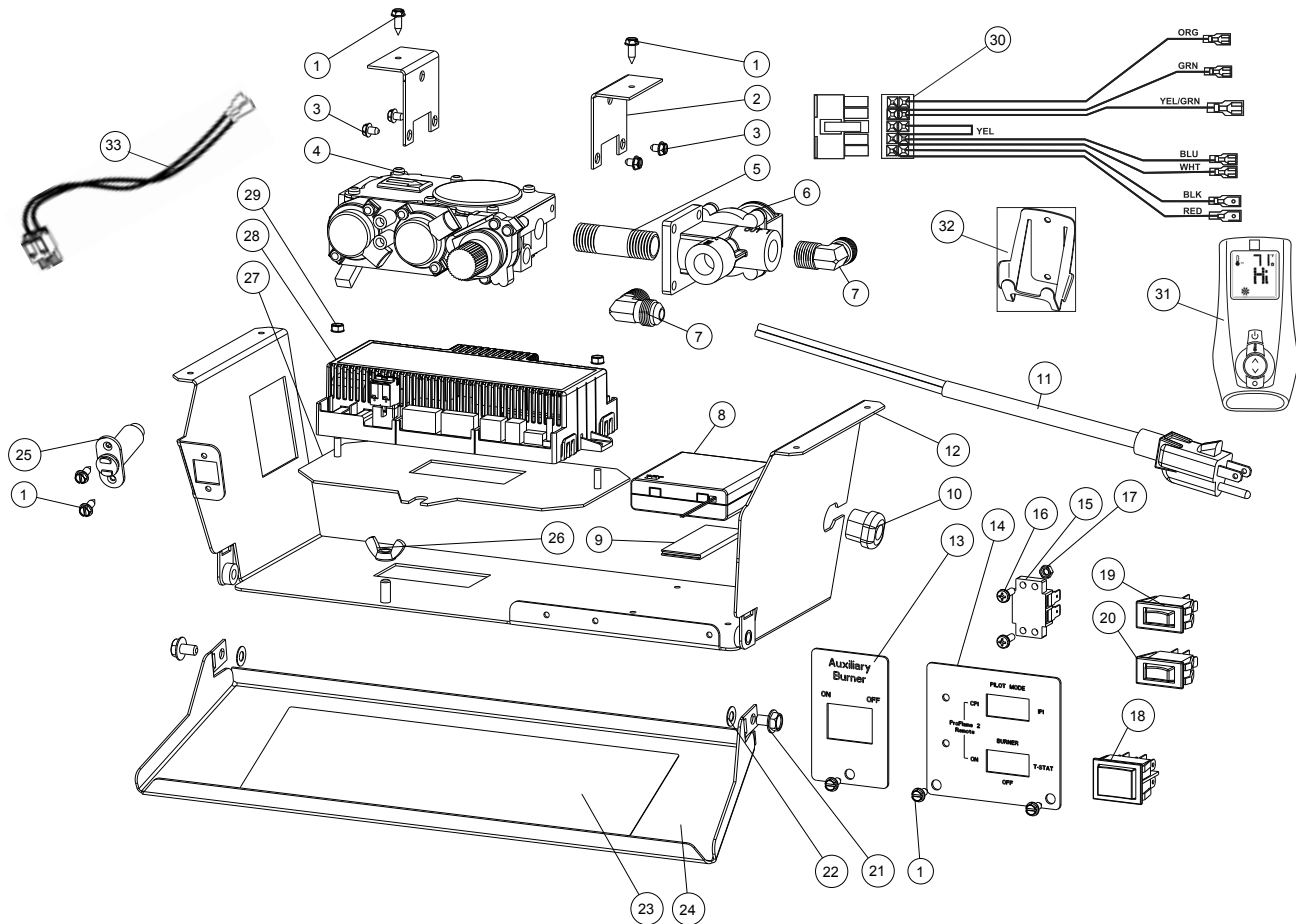

Figure 78.
2. Access the battery box from behind the right side of the control compartment. See fig. 78. Disengage it from the hook & loop tape.